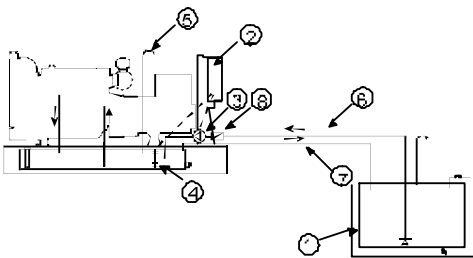

Figure 10.1: Typical Layout with Fuel System 1
**Fuel System 1:** The bulk fuel tank is lower than the day tank. With this system the fuel must be pumped up from the bulk tank to the day tank which is integrated into the baseframe. See figure 10.1.